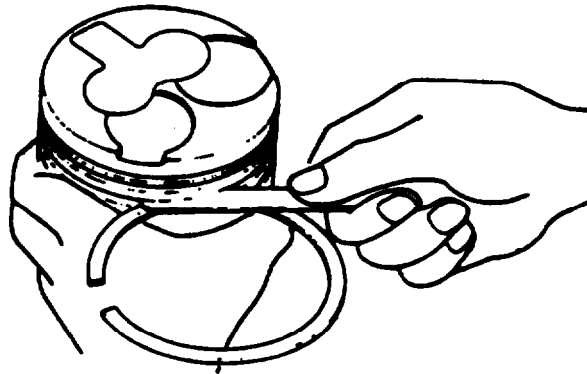

FIGURE 3-80. Piston Ring and Groove Clearance
- (1) Using a feeler gage, measure the clearance between piston ring and piston ring groove at several points around the piston, refer to FIGURE 3-80.
- (2) Standard clearance for the three compression rings is 0.0017 to 0.0027 in. (0.045 to 0.070 mm). Standard clearance for the oil ring is 0.0008 to 0.0021 in. (0.020 to 0.055 mm). The limit for clearance is 0.0059 in. (0.15 mm)
- (3) If clearance exceeds limit, replace piston rings.